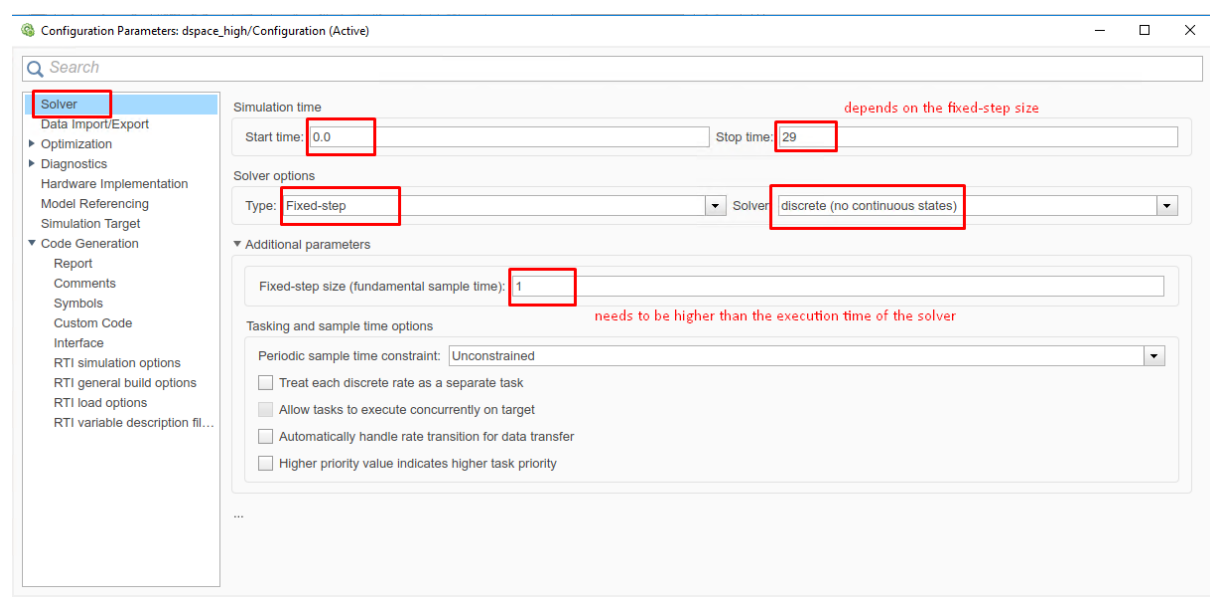

Figure 13.8: Set the Simulink solver options.
8. (Figure 13.8) In the "Solver" tab, set the options: